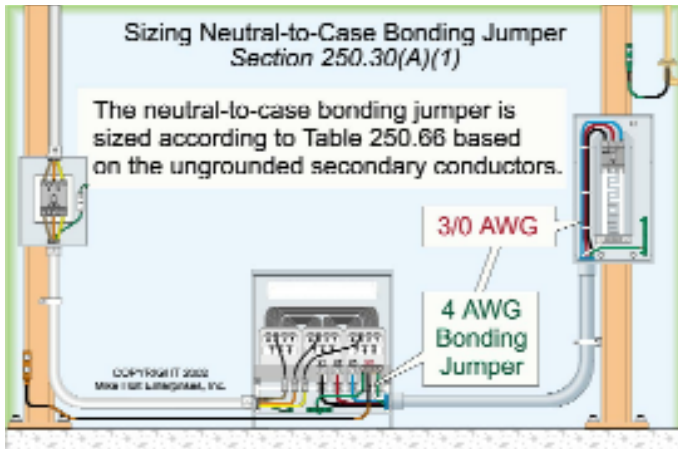

Figure 250-75
**Question:** What size bonding jumper is required for a 45 kVA transformer if the secondary conductors are 3/0 AWG? Figure 250-75